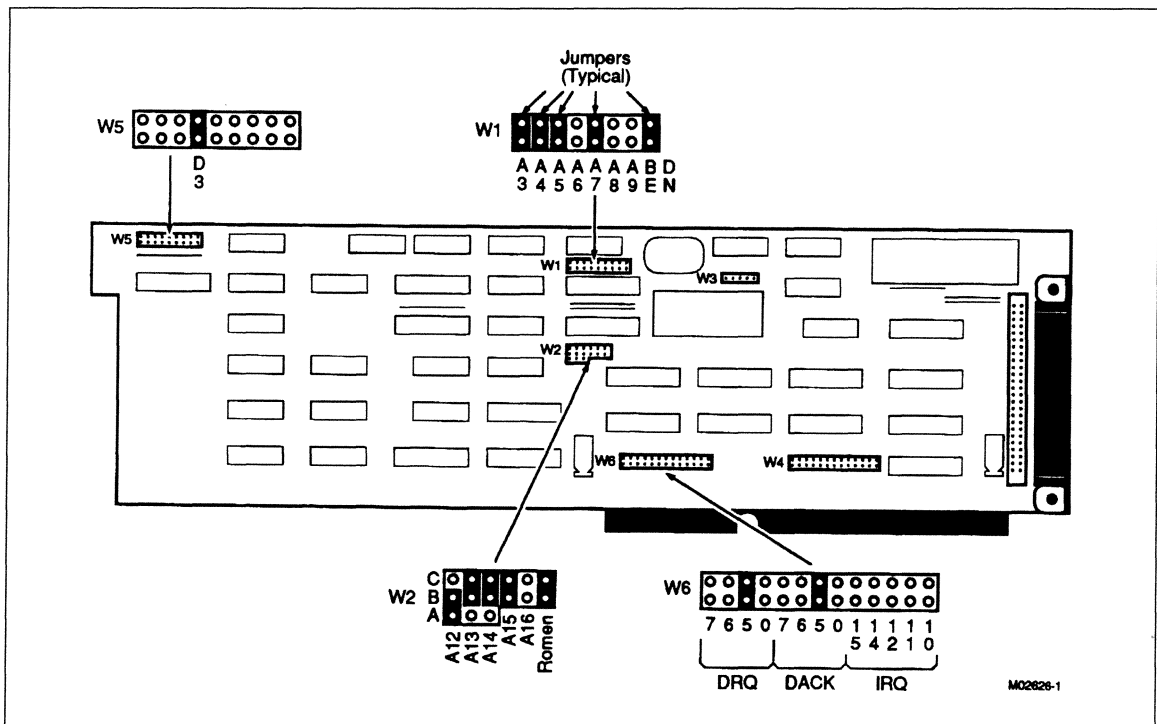

Figure 7-8. Jumper Strap Locations on SE SCSI Board for Card Slot 4
- ___ b. If installing a new SE SCSI board in card slot 4, set its jumper positions to those of the card removed from the same slot. These positions are as follows (see also figure 7-8).